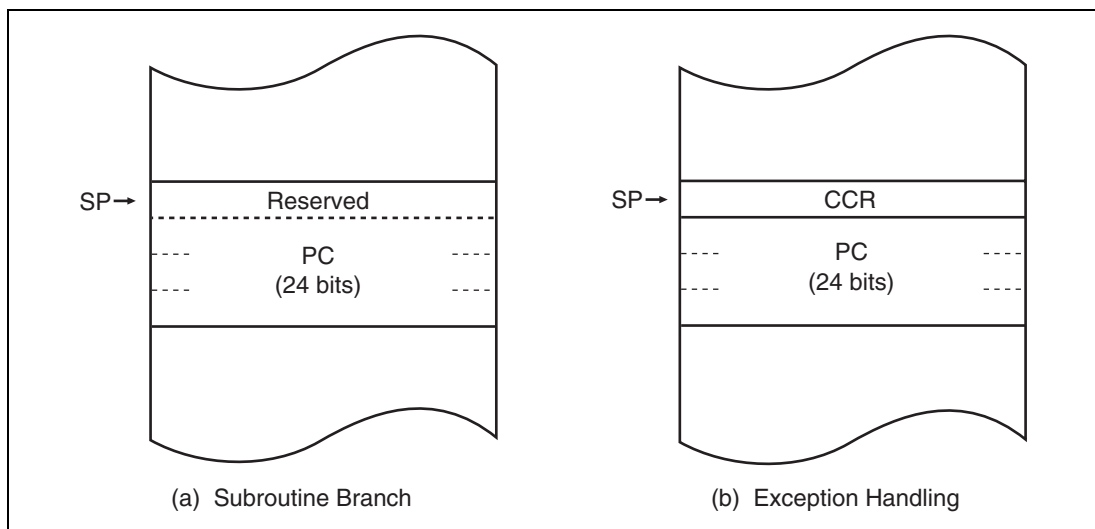

Figure 2.4 Stack Structure in Advanced Mode
In advanced mode, when the program counter (PC) is pushed onto the stack in a subroutine call, and the PC and condition-code register (CCR) are pushed onto the stack in exception handling, they are stored as shown in figure 2.4. The extended control register (EXR) is not pushed onto the stack. For details, see section 4, Exception Handling.